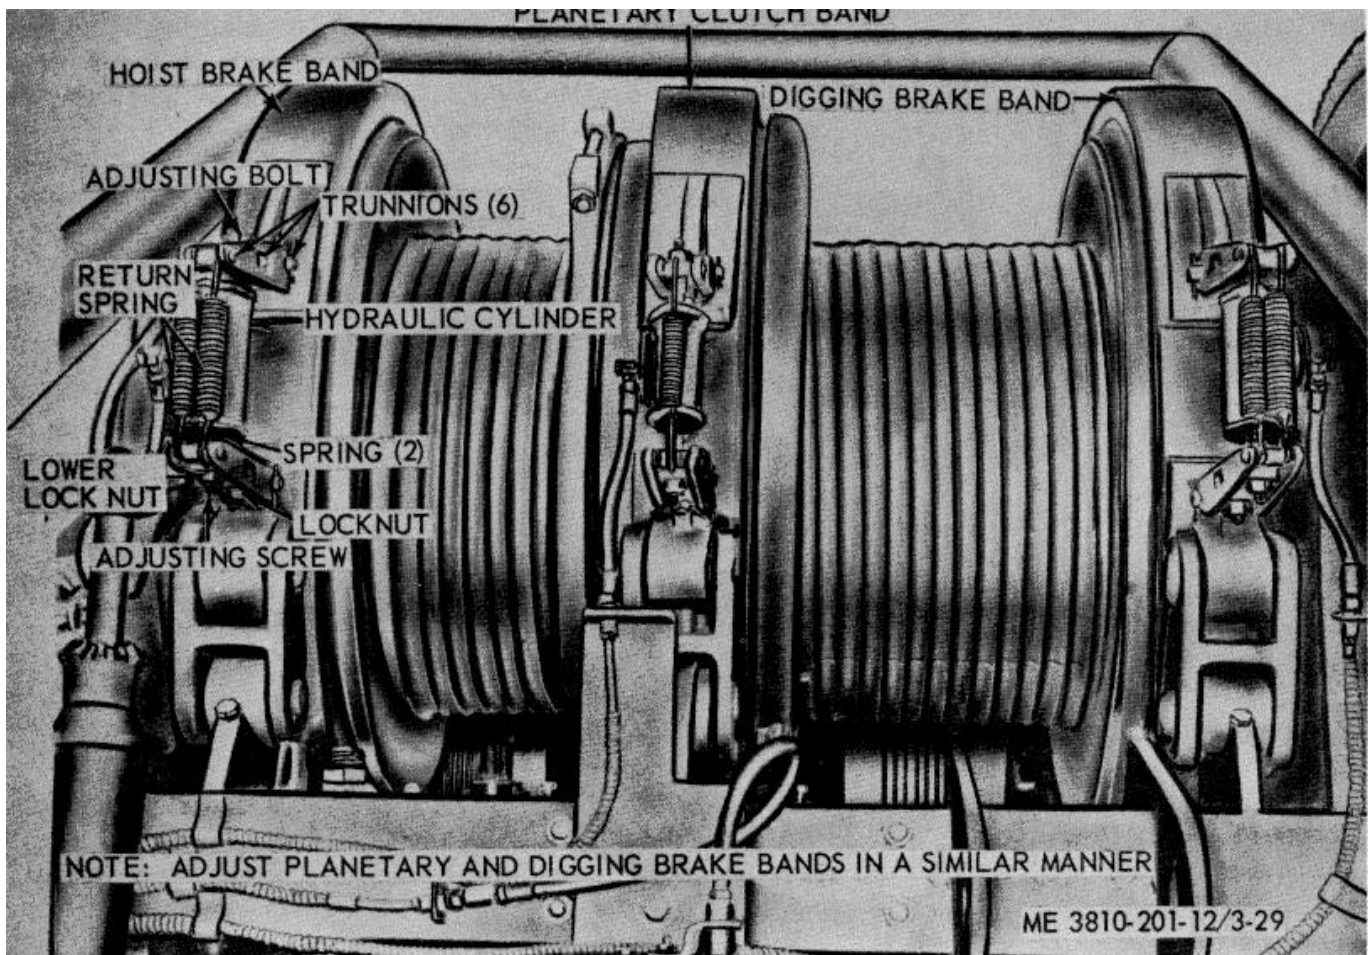

Figure 3-29. Hoist brake, digging brake, and planetary clutch band adjustment.
b. Adjust hoist brake band (fig. 3-29) by loosening locknut and tightening adjusting bolt as far as it will go. then back off on adjusting bolt until operation of brake lever engages with band drum smoothly under nominal pressure. After brake band is properly adjusted, tighten locknut.